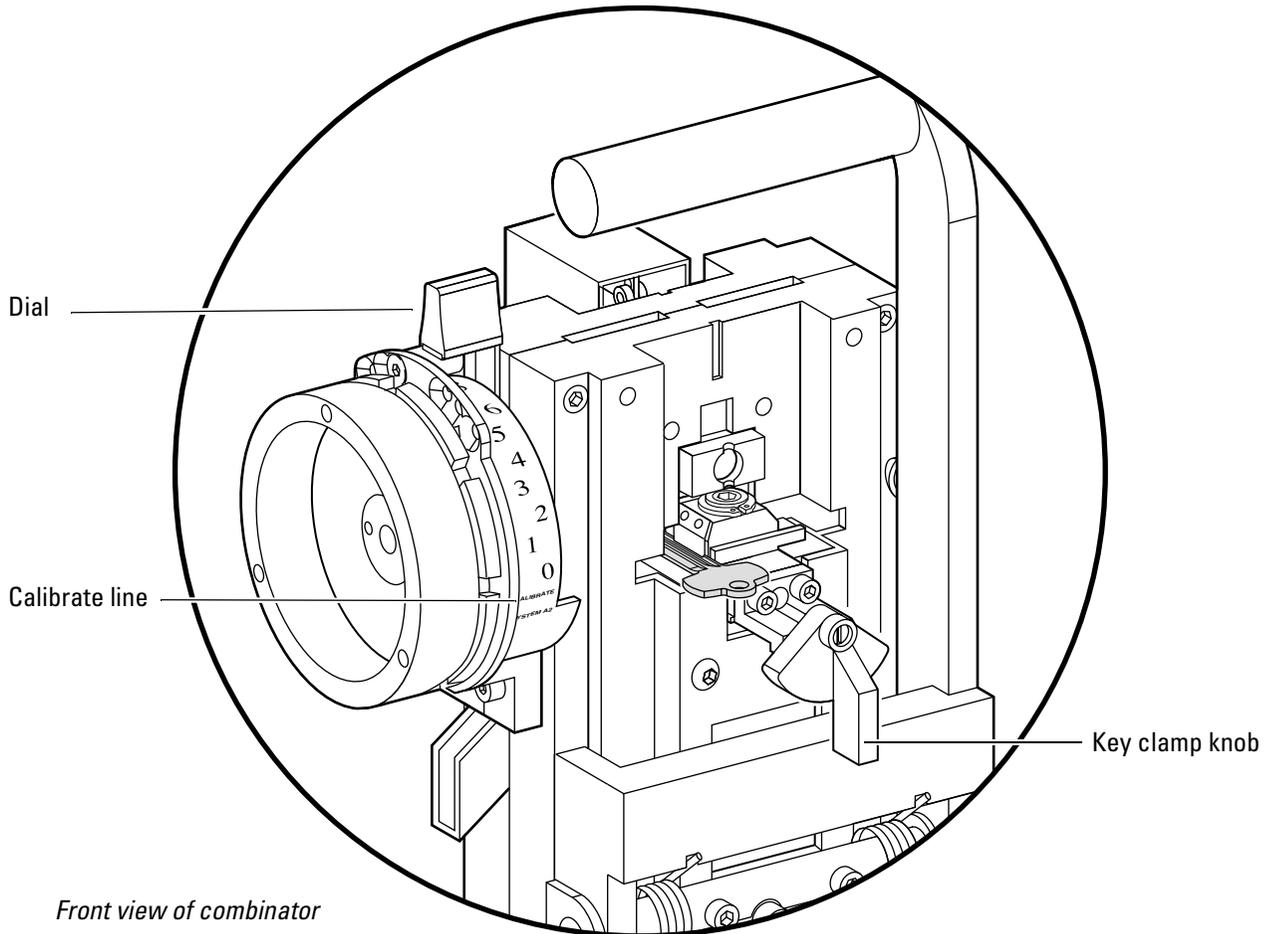

Figure 3.14 Cutting a calibration key
5. Move the dial on the depth selector assembly to the “CALIBRATE” line, which is located below “0”, as shown in Figure 3.14.